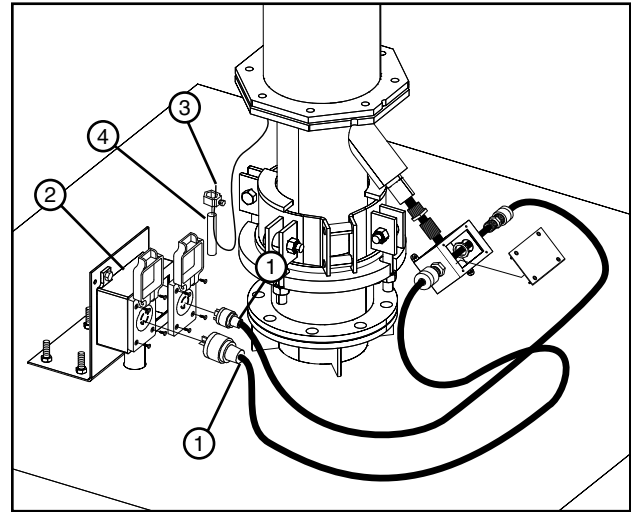

Figure 33-1 1. Electric Cord 2. Power Receptacle 3. Ground Wire 4. Ground Rod
12. At the pivot pad, make sure the power disconnect is locked in the OFF position. Then unplug the electric cords from the power receptacles. See figure 33-1.